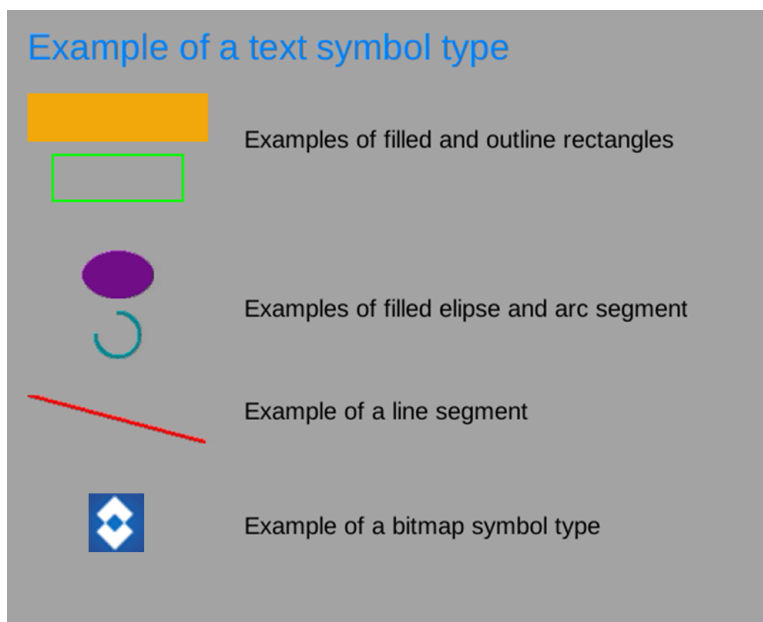

Figure 43: Examples of Boson Symbol Types
The Boson Release 2 configurations provide the option to specify custom symbol overlays. The camera supports several built-in symbol types, including rectangles, elliptical arcs, text, and lines, as exemplified in Figure 43. In addition to built-in symbols types, the camera also allows bitmaps to be uploaded to the camera for display. Width of the bitmap must be an integer multiple of 8.
- Start radius / end radius, from 0 to 360. This attribute applies to the arc segment symbol type only. It specifies the starting angle and ending angle, where angle = 0 is to the right and angle = 180 is to the left. The arc between the starting angle and ending angle is drawn clockwise. For example, the arc segment shown in Figure 43 has starting radius = 270 and ending radius = 180.
- Font type. 1 = built in font (Chrome Croscore Arimo font, used under authority of the Apache License, Version 2.0), 2 = user replaceable font file. This attribute applies to text symbol type only. All of the text shown in Figure 43 was generated with the built-in font.